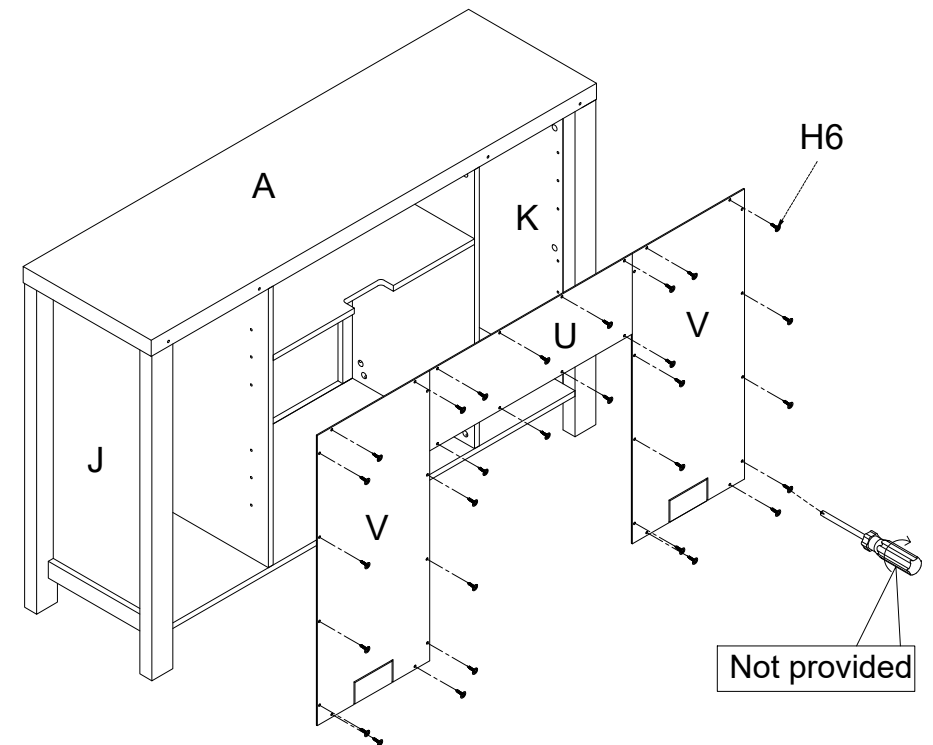

Figure 17
Align the holes in Side back panel (V) with the pilot holes in Top (A) and secure in place with Round head screw (H8) using screwdriver (Not provided) as shown in figure 17. Align the top of Middle back panel (U) with the tops of Side back panels (V) and secure in place with Round head screw (H6) using screwdriver (Not provided) as shown in figure 17.